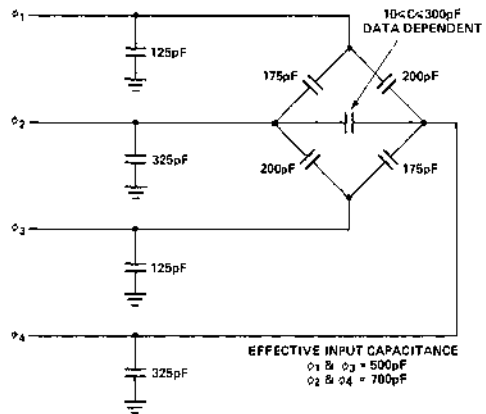

Figure 2. 2416 Equivalent Capacitance Circuit. (Maximum values shown.)
2. Output Load = four 2416 clock inputs or equivalent per Figure 2.
2. Output Load = Four 2416 clock inputs or equivalent per Figure 2
The equivalent circuit of the 2416 clock phase inputs is shown in Figure 2. The magnitude and duration of the cross-coupling are graphically presented in Waveform B and specified in the A.C. Characteristics. Figure 3, on the next page, shows the noise margin between these specifications and the 2416 input requirements.